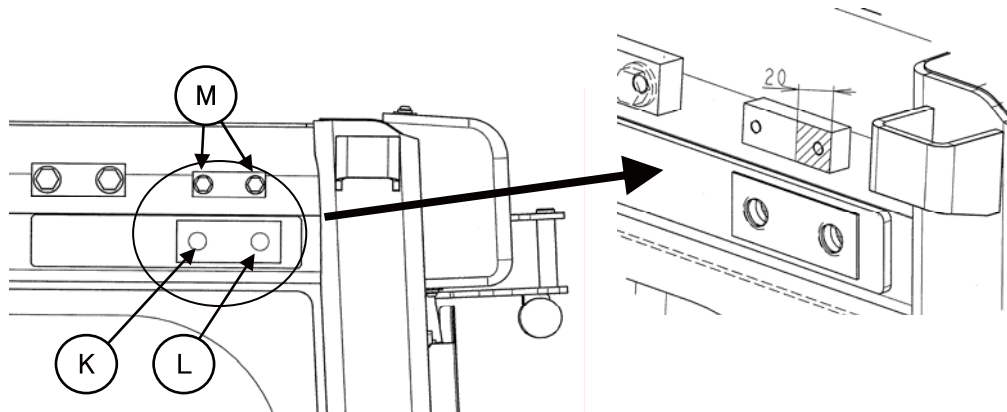

Fig. 3 Removal of cap
Referring to Fig. 3, remove the cap. (Discard the removed cap.)
- Referring to the detailed view in Fig. 3, remove the paint in the hatched area.